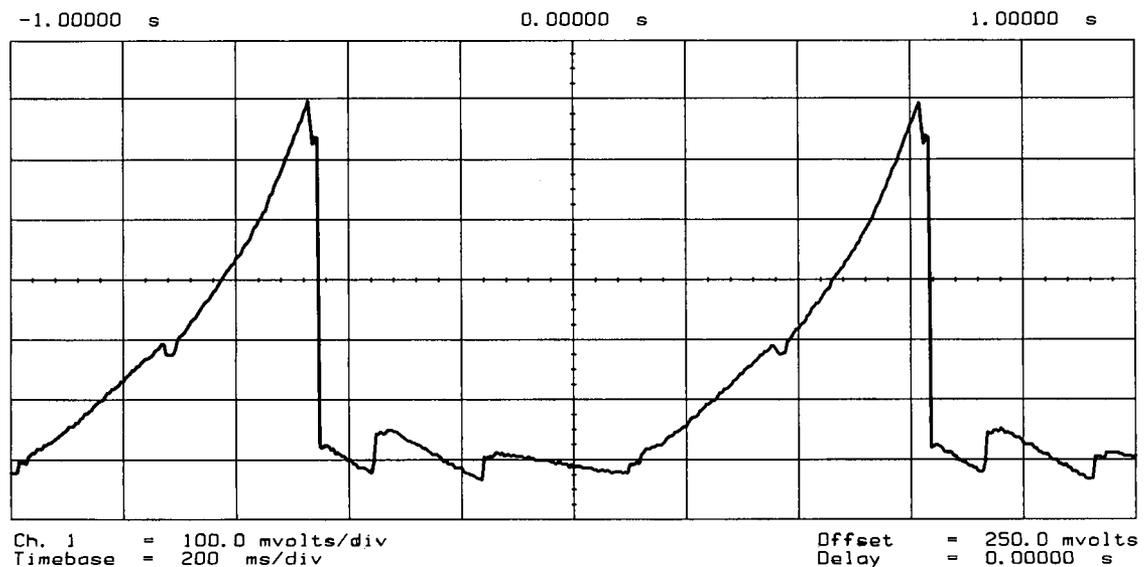

Figure H-4. Typical CMP Waveform
2. Look at the CMP test point (A28TP3) for an indication of how the slope DAC is varying slope compensation (see Figure H-4 for a typical CMP waveform). If the waveform is incorrect, the A28 assembly is the most probable fault.